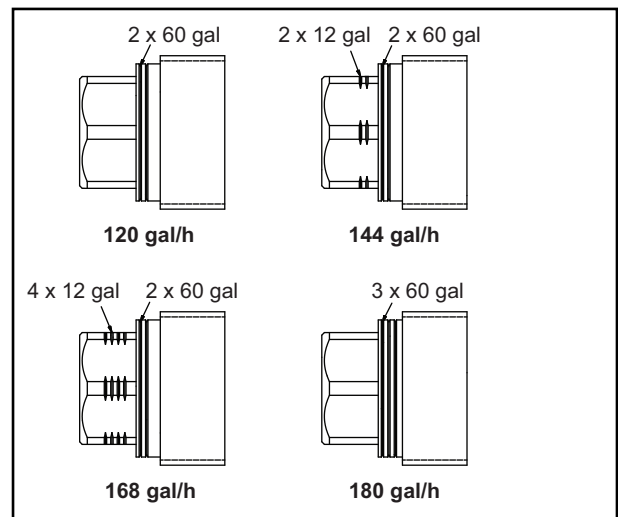

Figure 3.3. Nozzle ID
1. Ensure the burner is fitted with the correct nozzle kit for the desired flow rate. Notches are machined into the nozzle choke and nozzle swirler to indicate the flow rate. See Figures 3.3 and 3.4.